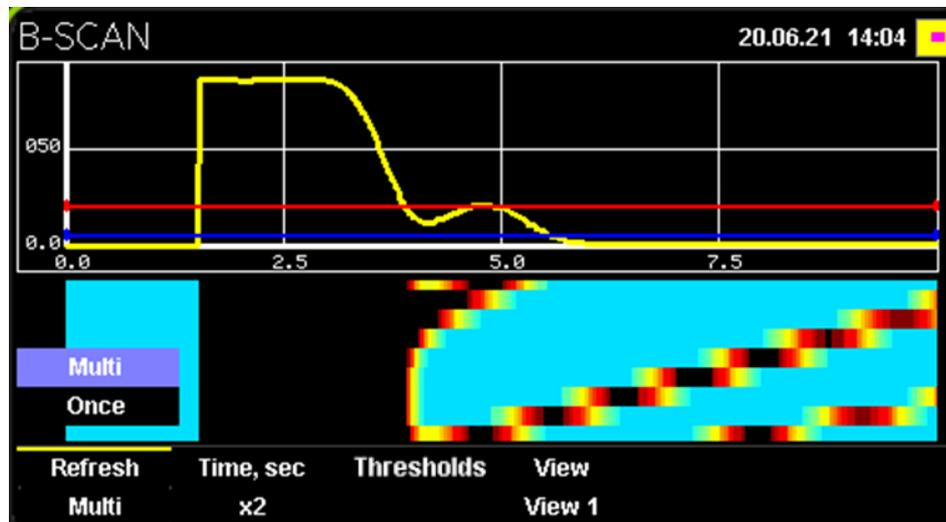

Figure 3.8 – Context ("OK") menu. B-scan window
3.3.3 Configure the B-scan and thresholds using the Context menu (Figure 3.8, operations with the Context menu are described in paragraphs 2.4.2 - 2.4.5). Description of the Context menu is given in Table 3.2.